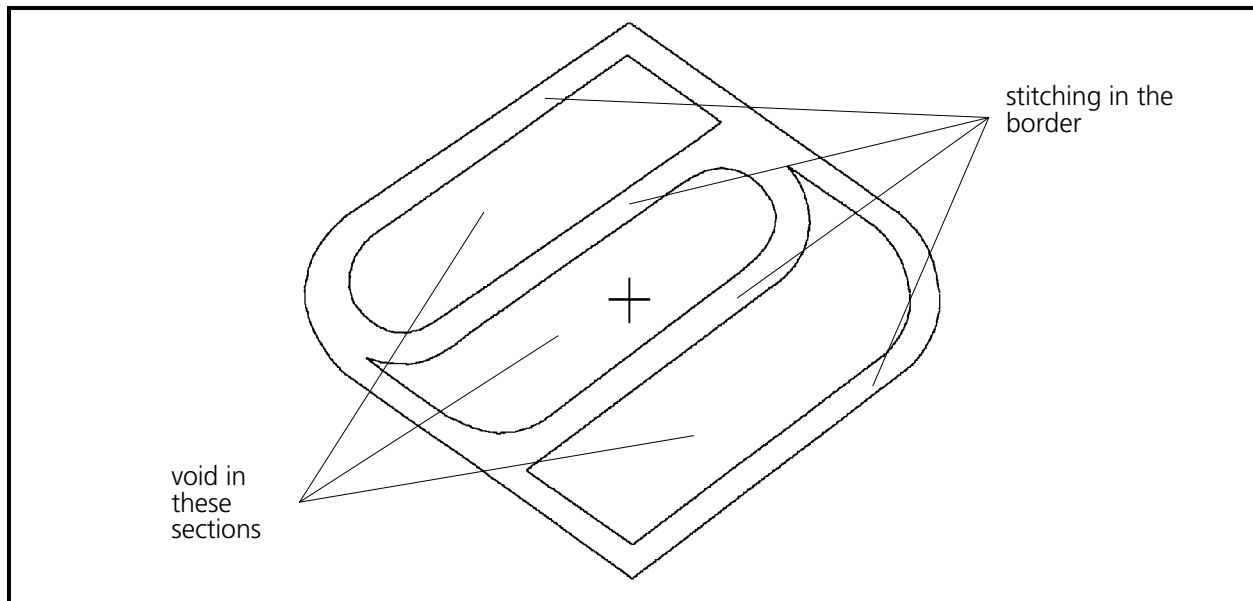

Figure 6-80
For digitizing a complex fill we will use the Saurer logo outline shown in Figure 6-80.
4. Locate the file named scomplx.pcx and load it into the EDS III Object Edit window. When loaded properly the image on the display will look similar to the illustration in Figure 6-80.